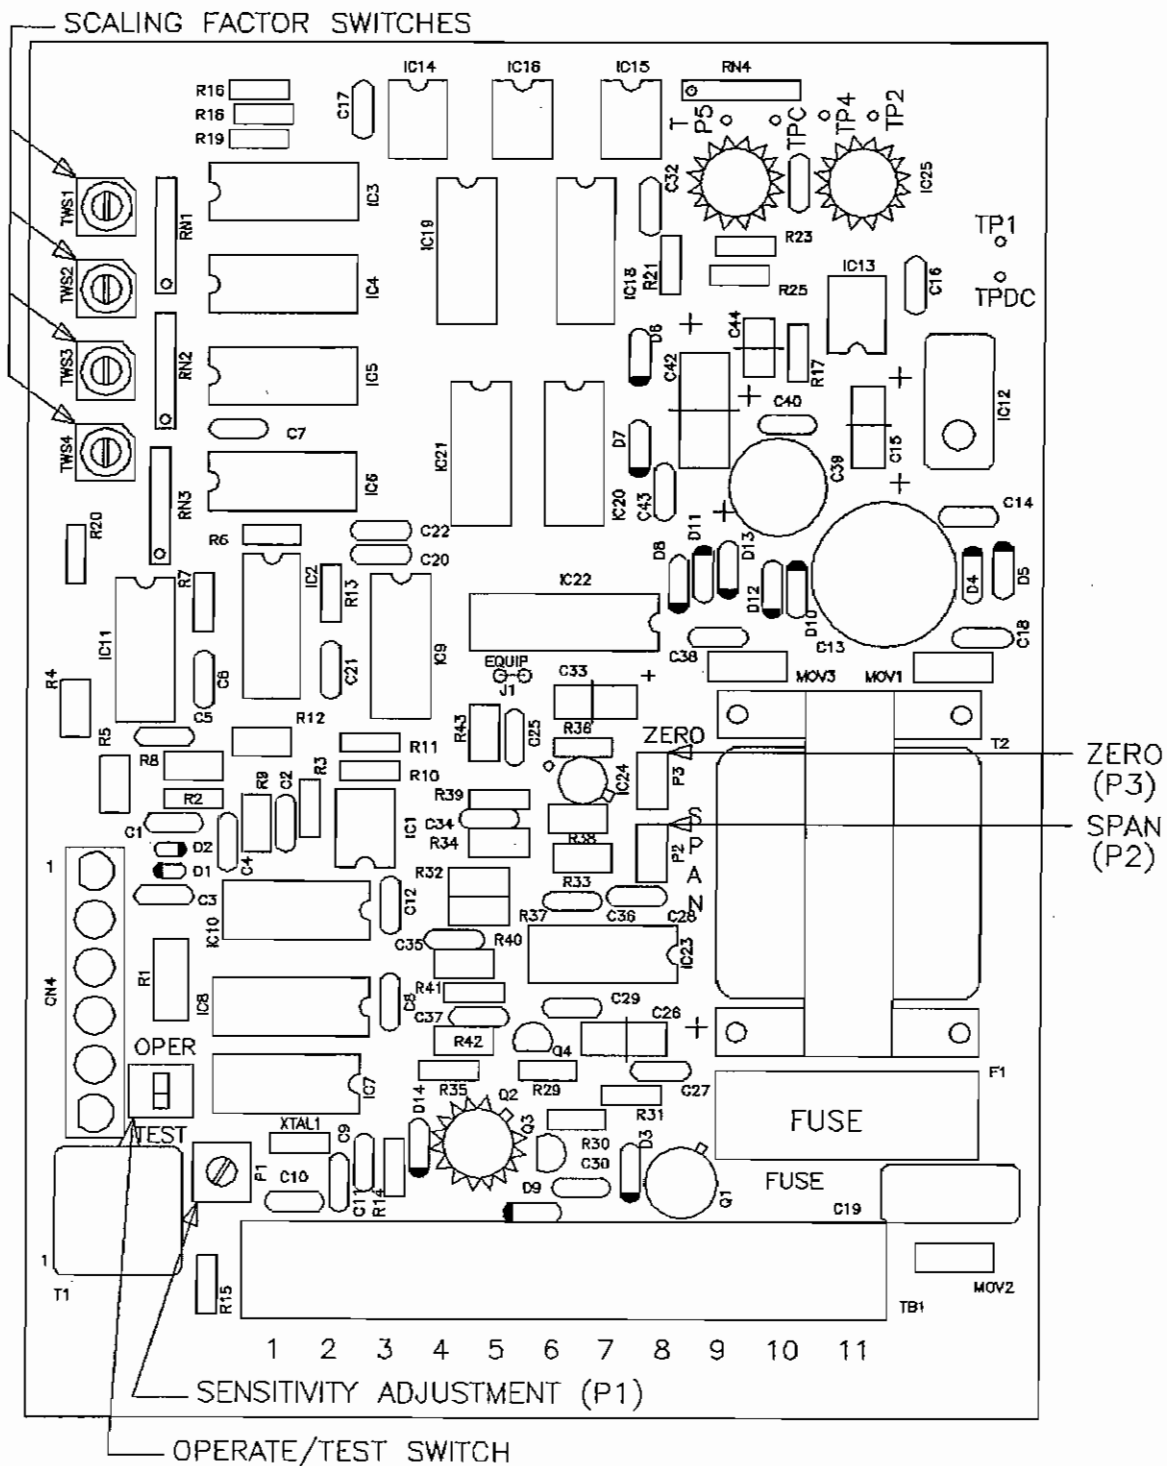

FIGURE 5-2 ELECTRONICS UNIT CONTROLS
4. Open the door of the electronics unit. Refer to figure 5-2 and locate the SENSITIVITY ADJUST (P1). Taking the nonmetallic alignment tool, slowly turn this adjustment CCW until false totalization and rate indication have stopped.
2. Open the door of the electronics unit. Refer to figure 5-2 and locate the SENSITIVITY ADJUST (P1). Taking the nonmetallic alignment tool, slowly turn this adjustment fully CW.